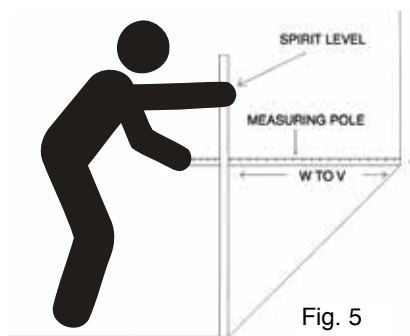
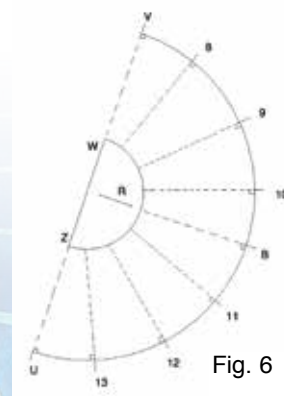

Fig. 5
Fig. 6
10. Using a pole and a spirit level, measure the horizontal distance W to V – see figure 5. Using the same method measure from Z to U. In the same way, at various points around the deep end measure the horizontal distance from the curve R to the perimeter (e.g. using figure 6, at points 8, 9, 10, B etc round to U) – use as many or as few as necessary. If you're lucky these horizontal measurements will be the same indicating that the hopper radius and the deep end perimeter radius are concentric. If they are not equal then you will have provided enough measurements to construct a scale drawing.
12. Check deep end depth in the normal way. Use the method outlined above (see 10 and figure 5) in reverse, i.e. have the spirit level horizontal and the measuring pole measuring the drop from the bottom of the side wall to the pool floor (or if easily done, measure the total depth from the linerlock to the floor in this way.)